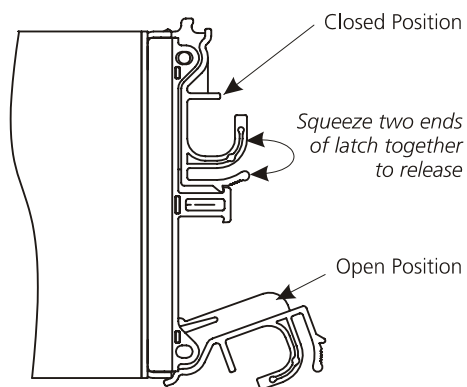

Figure 2–8 SCM Module Latch Operation
- 1 Install the module in rear Bay 3 of the enclosure (Figure 2–1).